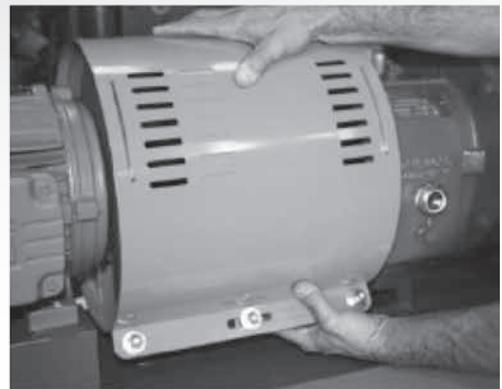

**FIGURE A-3
2. Slightly spread the bottom of coupling guard half (pump end) and place it over the pump end plate as shown in *Figure A-3*. The support slots in the guard half are located around the end plate.
3. After placing the coupling guard half around the end plate, secure it with a bolt, nut and two (2) washers through the round hole in the front end of the guard half as shown in *Figure A-3*. Tighten securely.
4. Slightly spread the bottom of coupling guard half (driver end) and place it over the coupling guard half (pump end) so that the support slots in the coupling guard half (driver end) faces the driver as shown in *Figure A-3*.